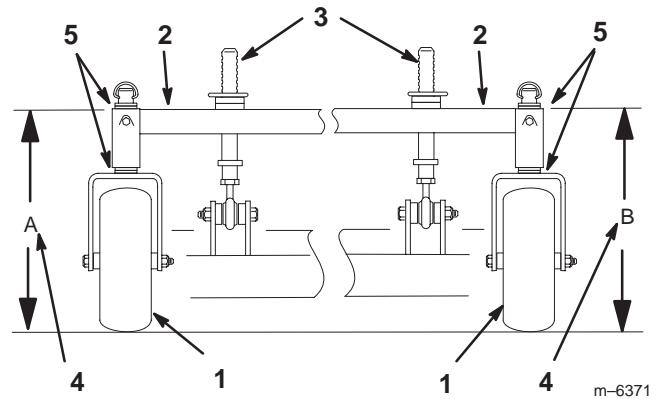

Figure 57
4. Measure carrier frame height at location **A** (Fig. 57).
5. Measure carrier frame height at location **B** (Fig. 57).